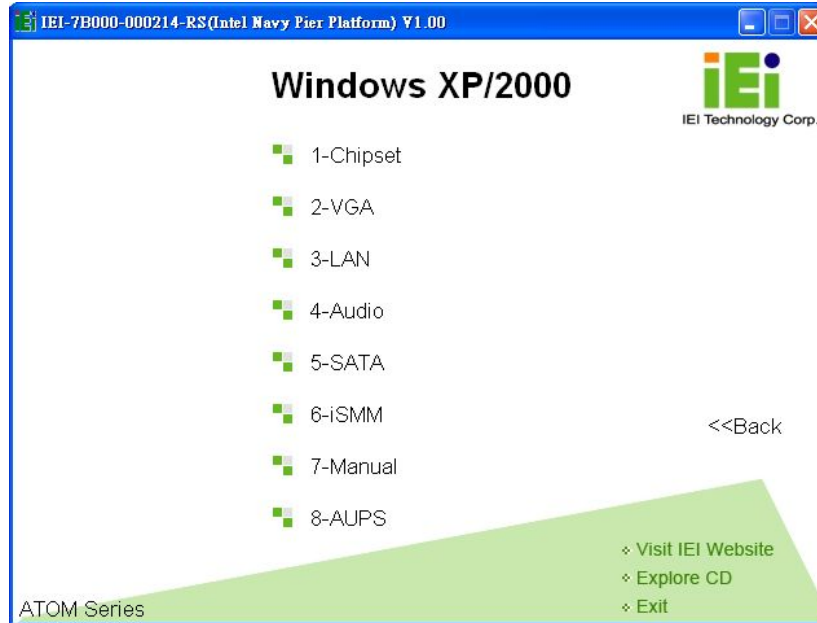

Figure 7-3: Drivers
Step 6: The list of drivers in Figure 7-3 appears. **Step 0:**
Step 1: Access the driver list shown in Figure 7-3. (See **Section 7.2**)
- Step 1:** Access the driver list shown in Figure 7-3. (See **Section 7.2**)